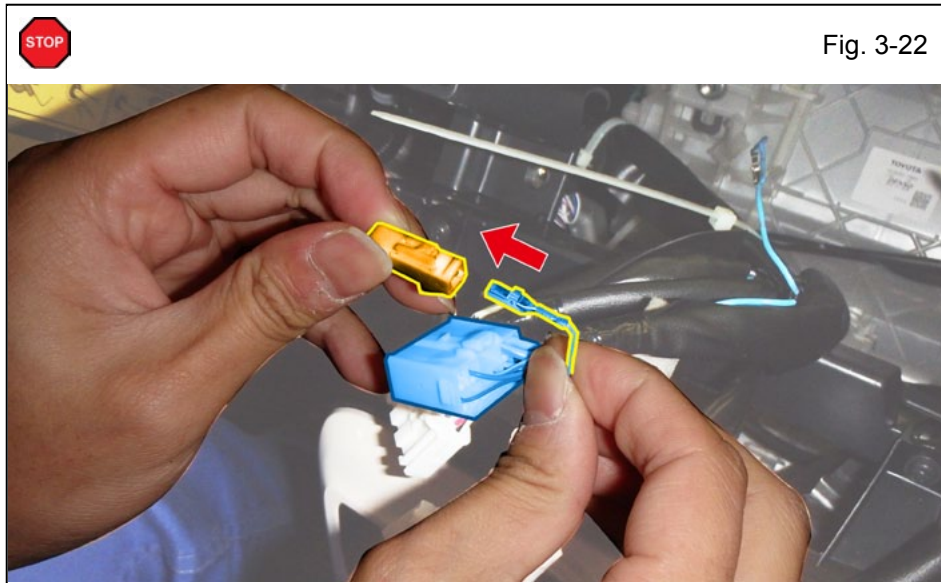

Fig. 3-22
ad. Insert the Vehicle's Sky Blue Wire Terminal into the V5 1P Connector. (Fig. 3-22)
**VERIFY:** Terminal Pins are properly inserted and do not come out. (Fig. 3-22)
ae. Close the Terminal Retainer Clip. (Fig. 3-22)